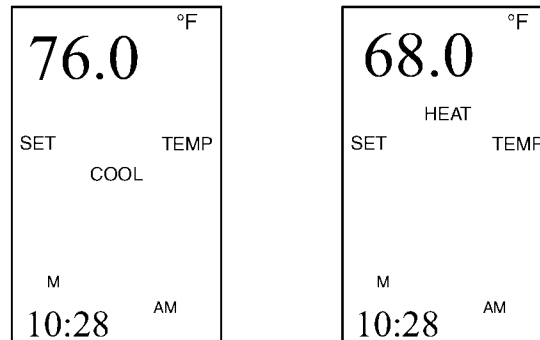

Figure-4.27 Typical Control Setpoint Frames.
3. Continue to press <Select> until the control setpoint that you want to change is displayed. Two typical setpoint frames are shown below (Figure-4.27).